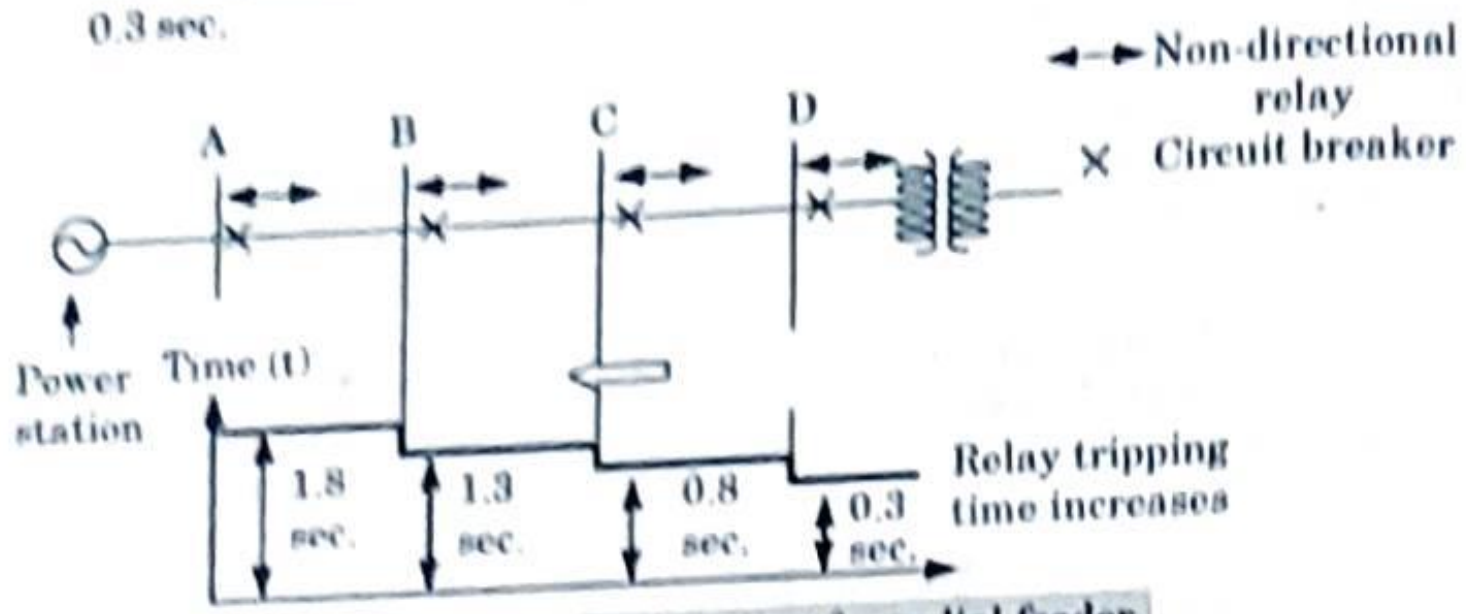

Fig. 3.14.1. Time grading for radial feeder.
3. Fig. 3.14.1 shows the overcurrent protection of a radial feeder. For a fault beyond D, Circuit Breaker at D operates first with relay time of 0.3 sec.